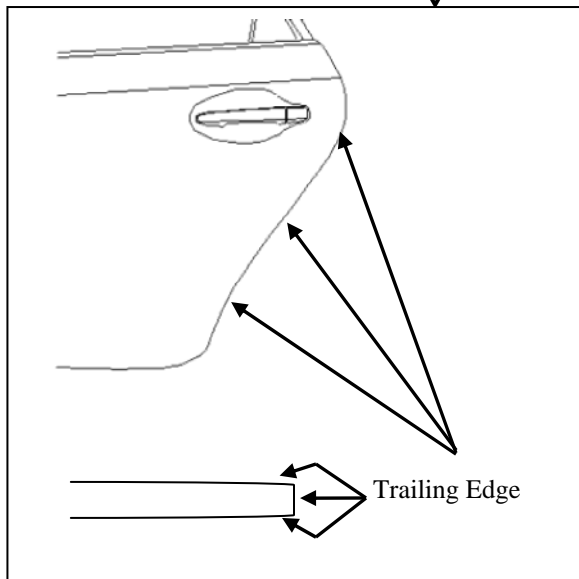

Fig. 1-1
(1) Spray 3~4 pumps of Simple Green (or VDC approved cleaner) onto lint free towel and pinch the wet towel between your thumb and forefinger while running along the length of the door edge to clean the inside and outside of the trailing edge of door. Make several passes to ensure the wax and oil has been removed. (Fig. 1-1)